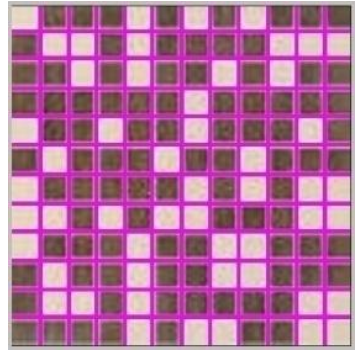

Fig. 389 – grouts drawn in a program for processing pictures
- it should be done in a following way: in places, when grouts are visible on the picture apply lines of the thickness the same as the thickness of the grout in reality (**1 pixel = 1 mm**), in the colour of a RGB sign code: **R=255, G=0, B=255** (magenta) (Fig. 389);